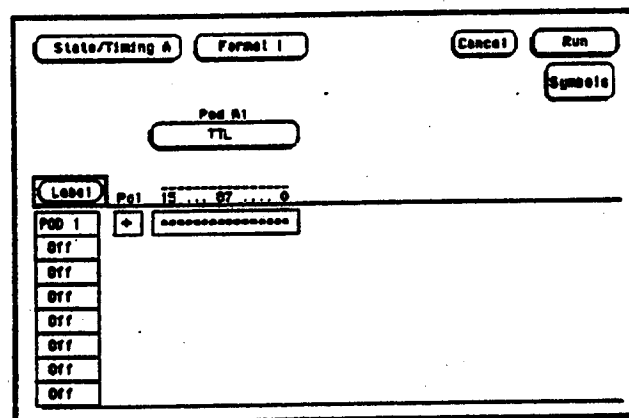

Figure 4-5. Pod Threshold Field
- d. Touch the pod A1 threshold field labeled TTL. See figure 4-5.